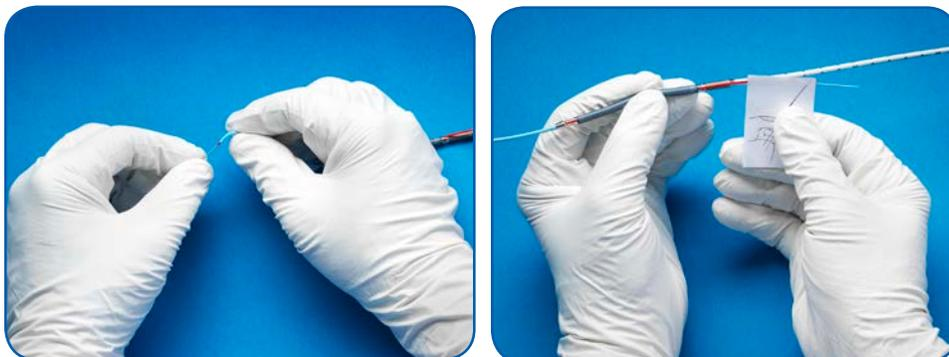

Figure 5.16 Loading the Catheter on the Guidewire using the EasyGuide Lumen
9. Insert the placement guidewire into the red EasyGuide lumen at the tip of the pigtail as shown in Figure 5.16. **(If the catheter does not have a red EasyGuide lumen, follow the procedure outlined in step 10.)**
- b. Remove the EasyGuide lumen by gently pulling the label in line with the catheter shaft while holding the Impella® Catheter as shown in Figure 5.16.